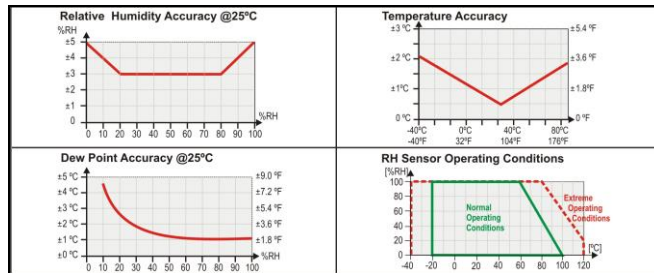

Figure 01 - RH and Temperature accuracies
- Accuracy:** Refer to Figure 01;
**Operating limits:** Sensor and probe (RHT/DM): see Figure 01;
Humidity sensor has a total span of 0 to 100 % and accuracy of 3% at 25 °C, as showed in Figure 01. This 3 % RH error is the same no matter if the total span is configured (0 to 100%) or a narrower span (like 20 to 80%).